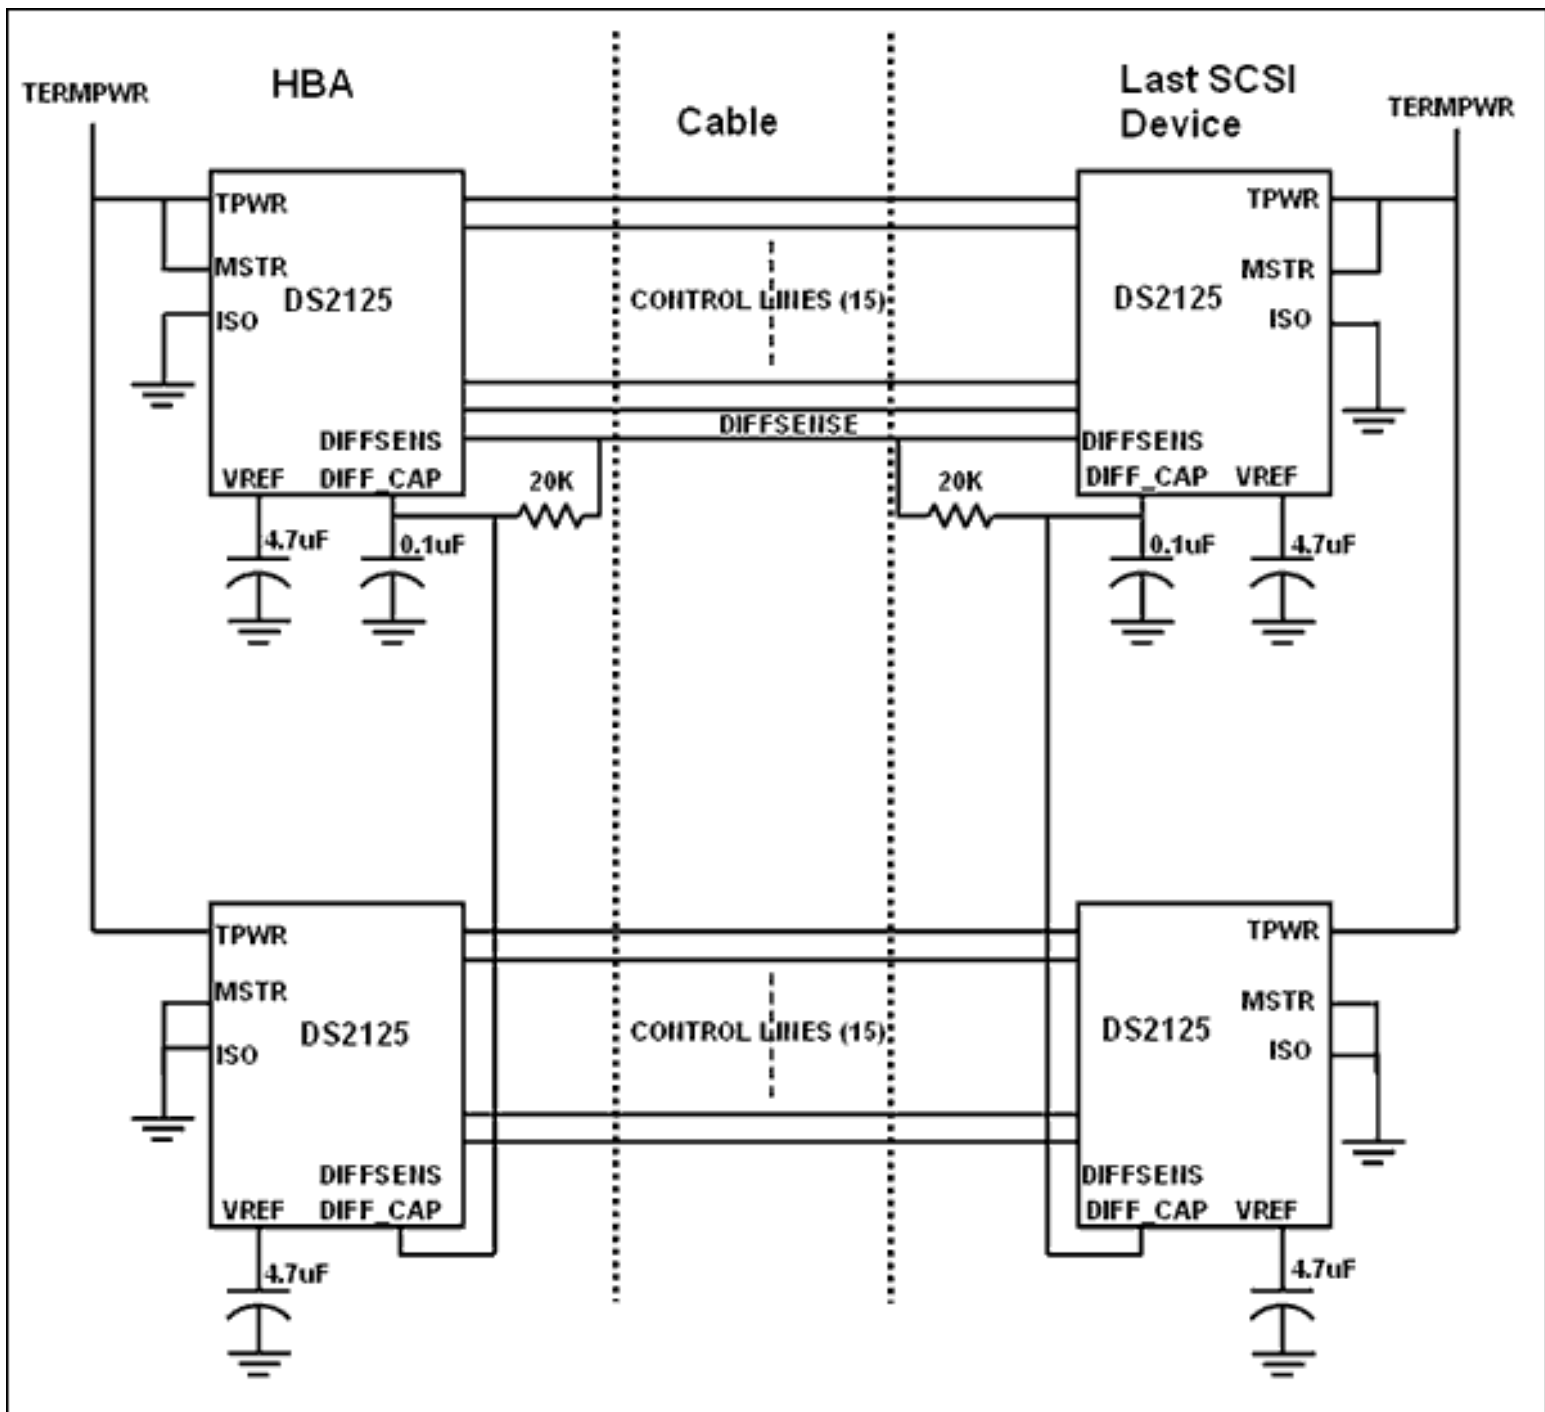
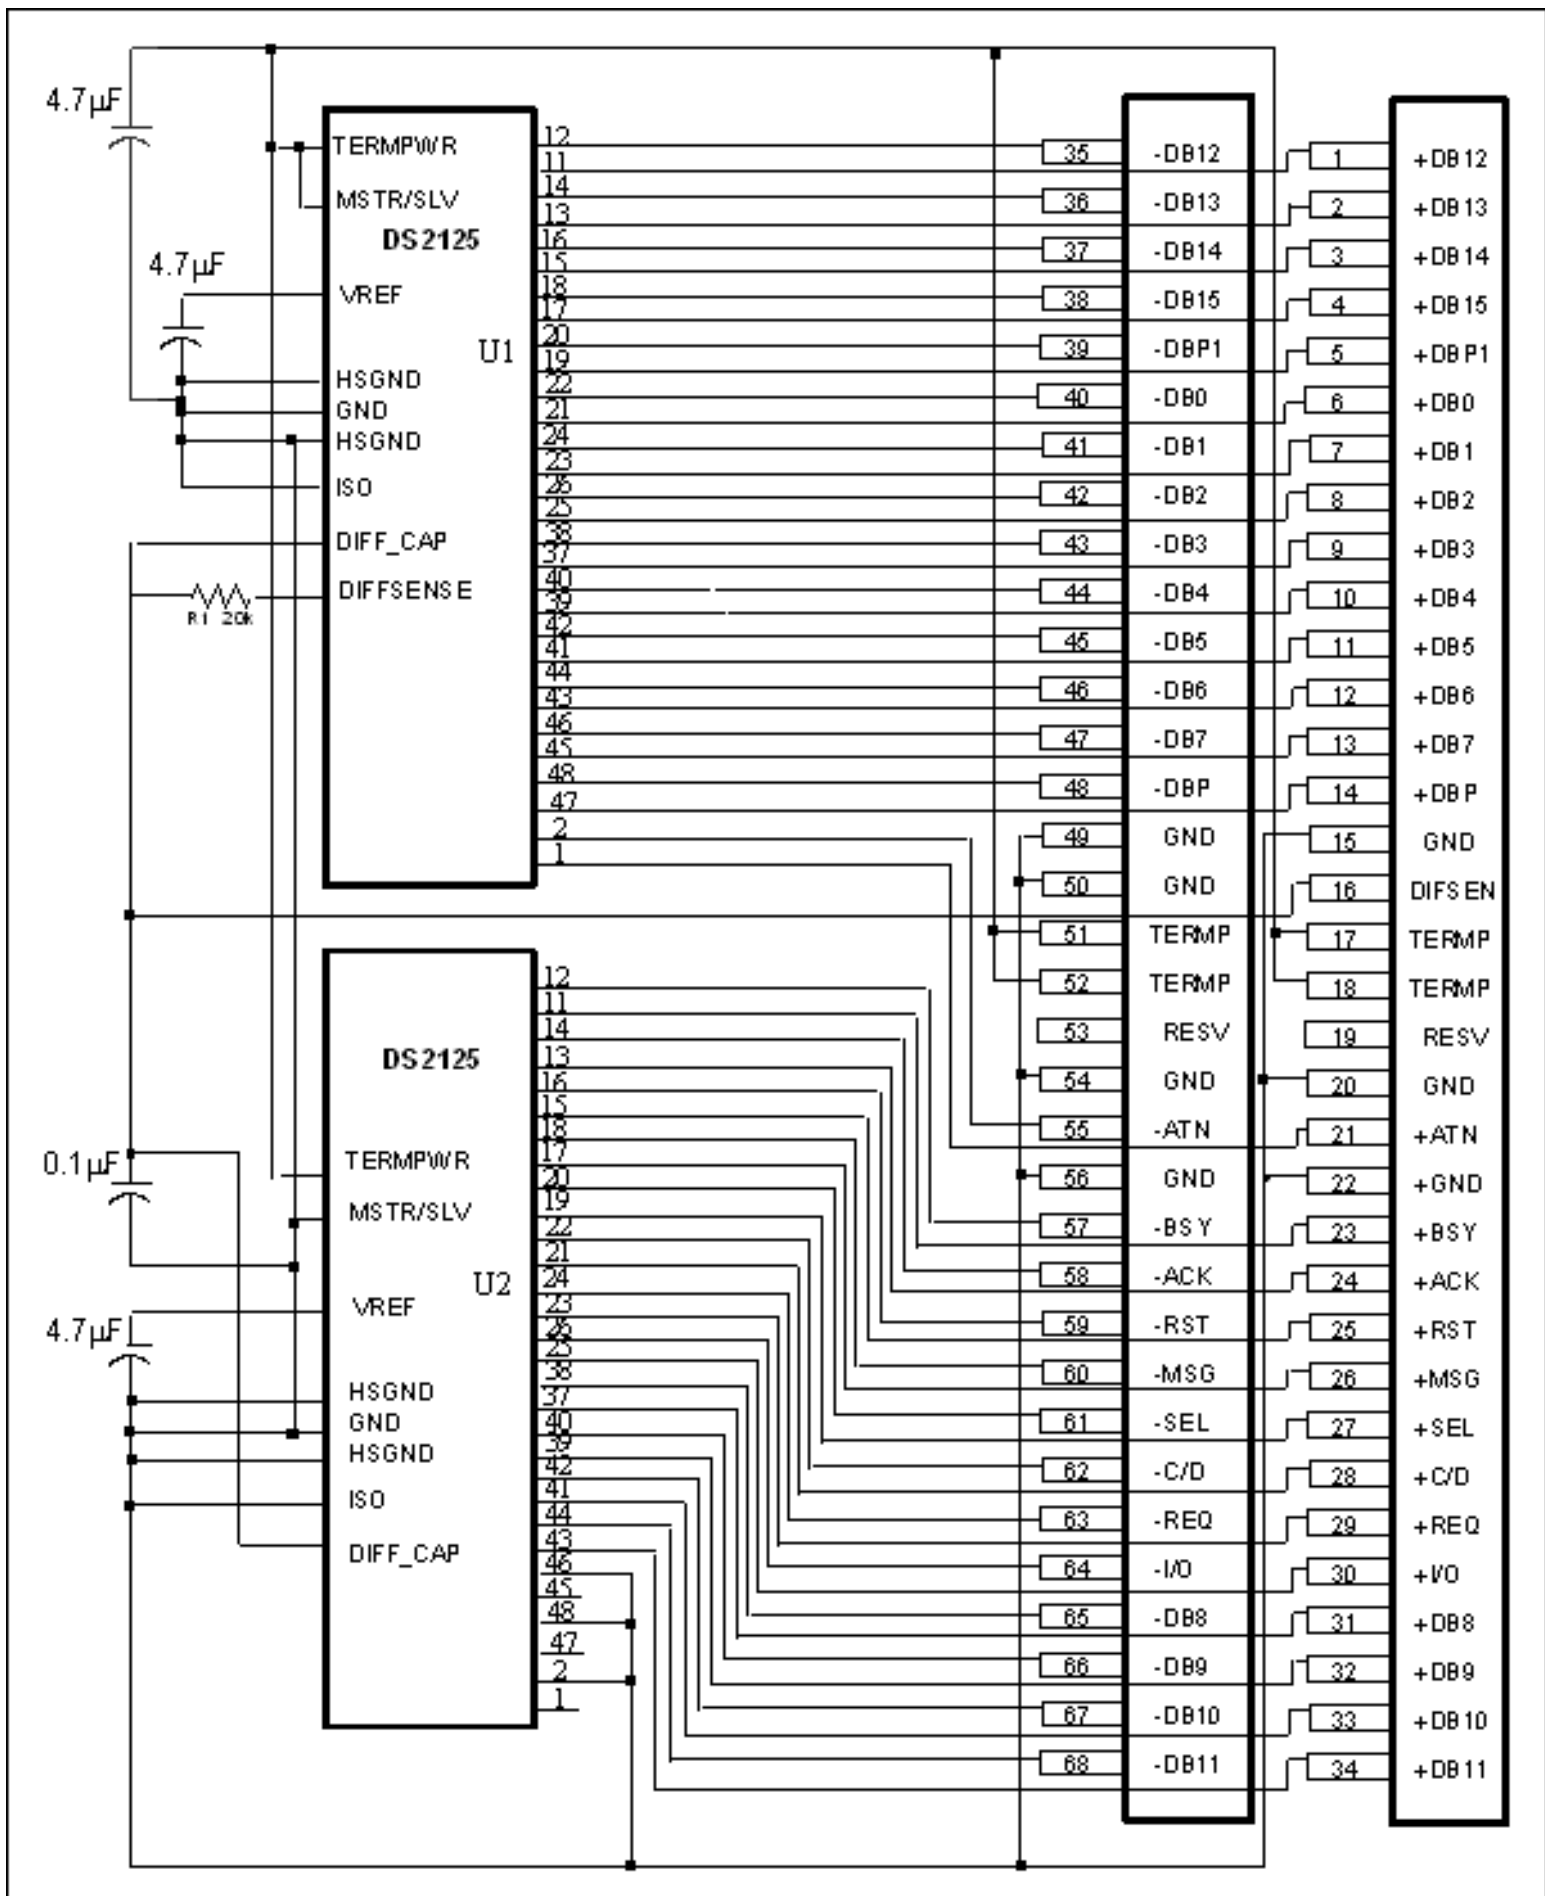

Figure 4. Typical DS2125 SCSI bus connections.
Figure 5. Typical SCSI wide-bus pin connections.
In a typical application, the SCSI devices are daisy-chained as shown in **Figure 4**. The DIFF\_CAP signal monitors the DIFFSENS line to determine the proper operating mode of the device. The DIFFSENSE pin can also drive the SCSI DIFFSENS line (when MSTR/SLV = 1) to determine the SCSI bus operating mode. The DS2125 combines LVD and SE termination with DIFFSENS sourcing and detection.
The DIFFSENSE circuitry decodes trinary logic. There will be one of three voltages on the SCSI DIFFSENS control line. If the voltage is below 0.6V, SE mode is selected. If DIFFSENS is above 2.15V, HVD mode selection causes the DS2125 to isolate itself from the bus. If the DIFFSENS line is between 0.6 V and 2.15V, LVD mode is selected. The ISO input pin, as shown in Figure 4, may be pulled high by the HBA to isolate all the devices from the bus.
**Figure 5** is a complete wiring diagram of the SCSI wide-bus application. The diagram shows an end-of-the bus application connected to the 68-pin P-type connector. Because each end of the wide-bus requires two DS2125 SCSI terminators, a total of four devices are needed to terminate the path, as shown in Figure 4. Please note that there is one device selected on each end of the bus as the master. When the MSTR/SLV pin is pulled high, the DIFFSENSE pin will output the appropriate mode level to be detected by the DIFF\_CAP pins.